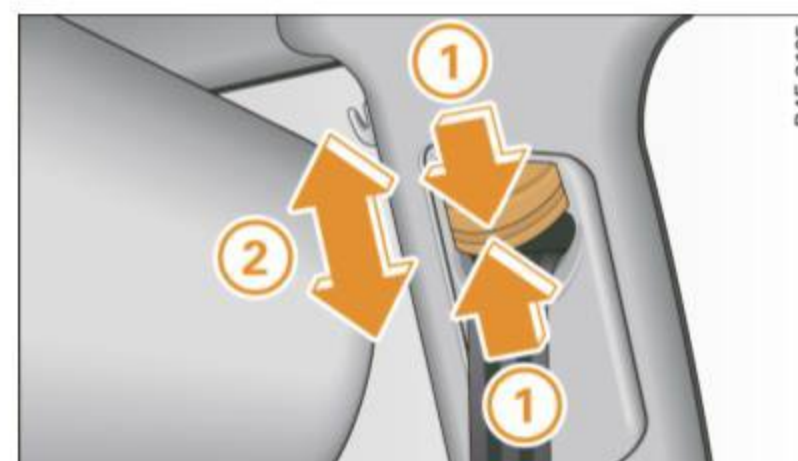

Fig. 135 Safety belt height adjustment for the front seats – loop-around fittings
- Push the loop-around fittings **up** ⇒ fig. 135 (2), or
- squeeze together the (1) button, and push the loop-around fittings **down** (2).